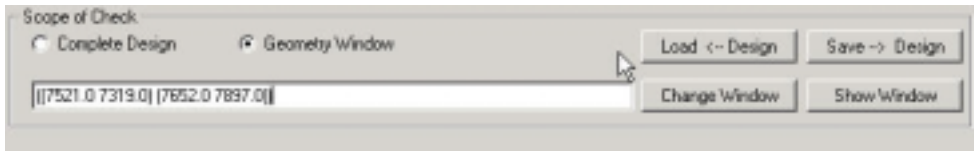

Figure 6 Select the scope of the design that requires checking
- Select the scope of the design that requires checking, as shown in Figure 6.